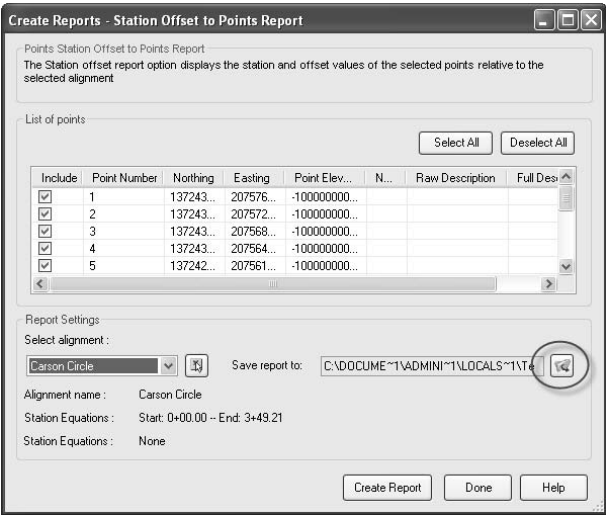

Figure 2.14
7. Click the Create Report button to display the information in Figure 2.14.